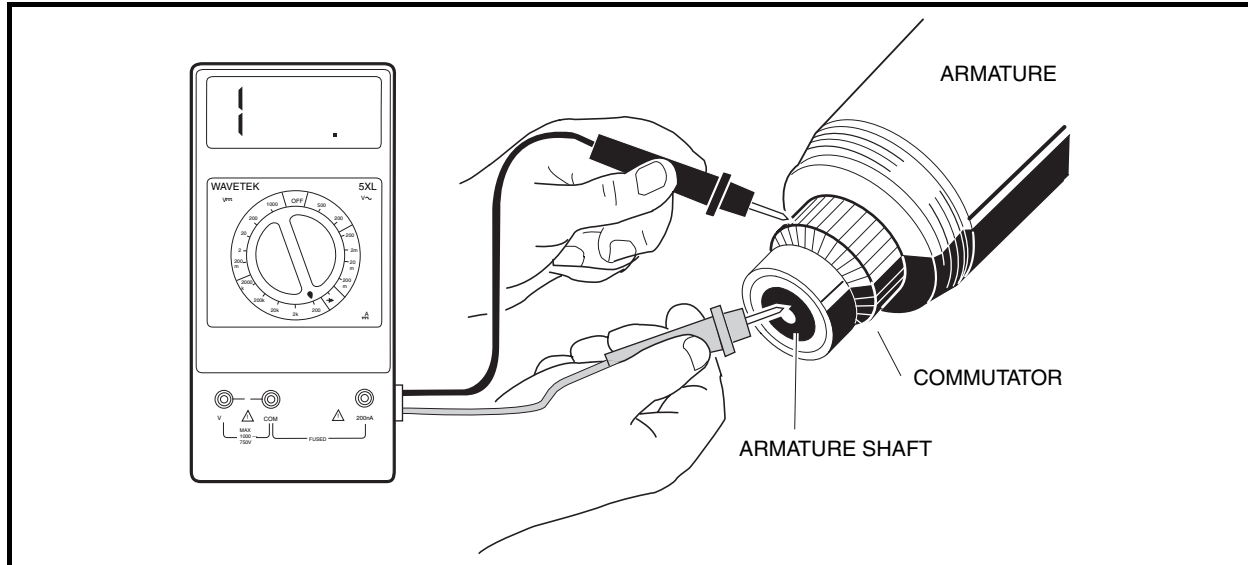

Figure 12-12 Armature Ground Test
1. Use a multimeter set on 200 ohms and place the positive (+) probe on the commutator bars and the negative (–) probe on the armature core. The reading should be no continuity. If the reading is incorrect, replace the armature and the two bearings (**Figure 12-12, Page 12-8**).